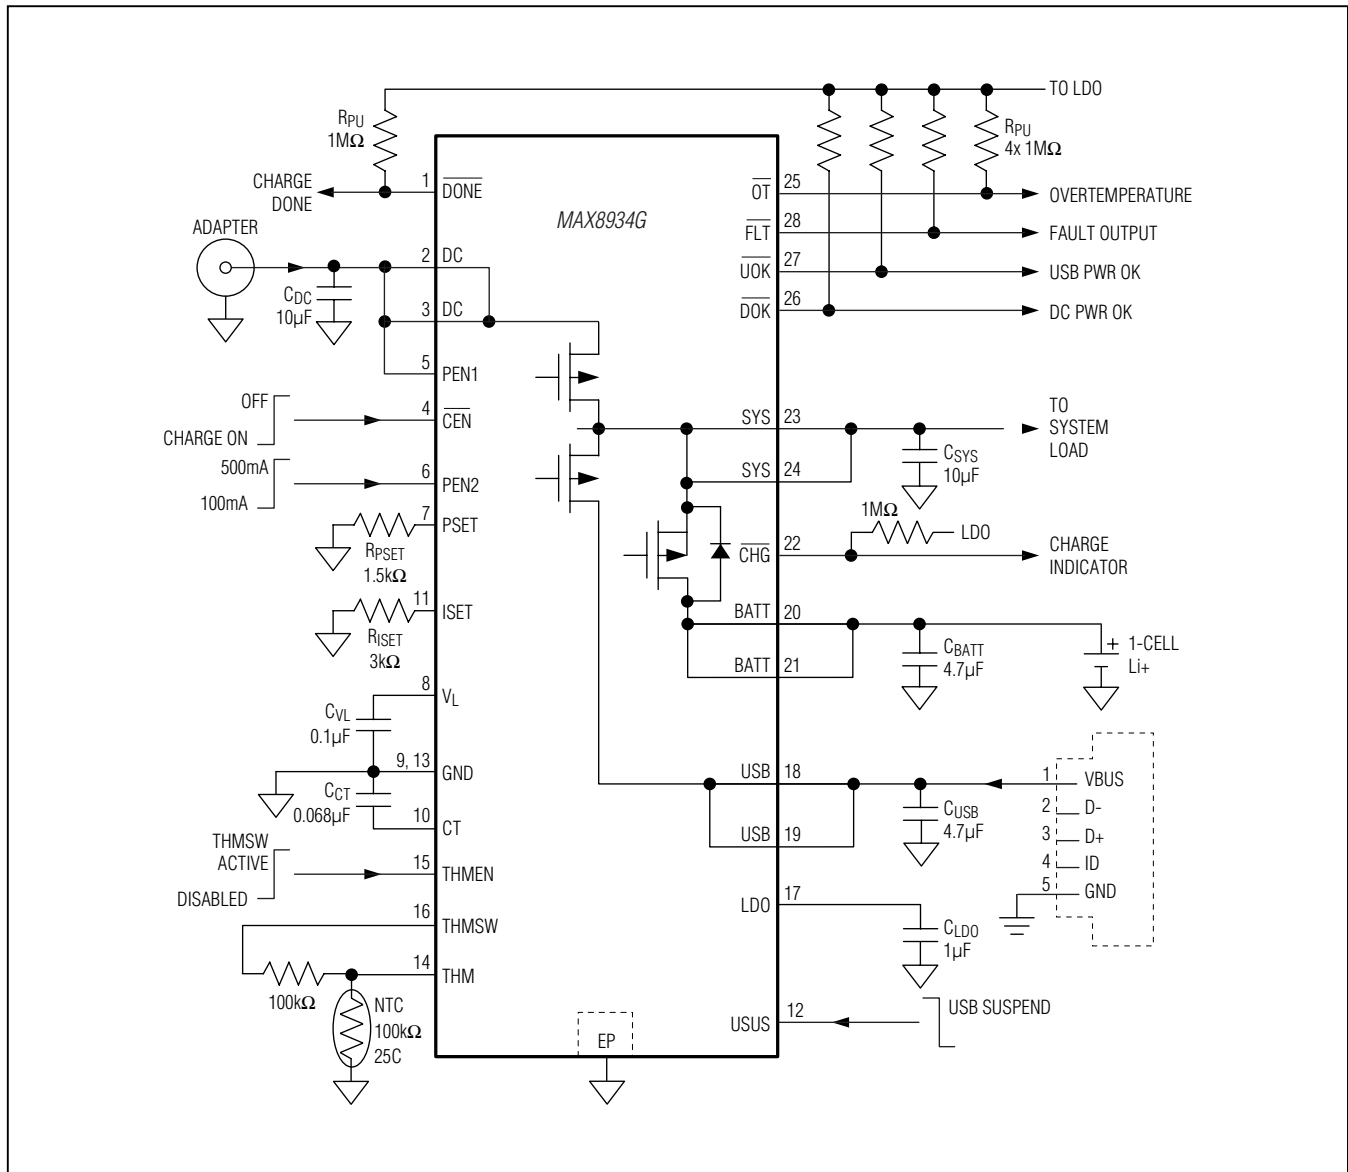
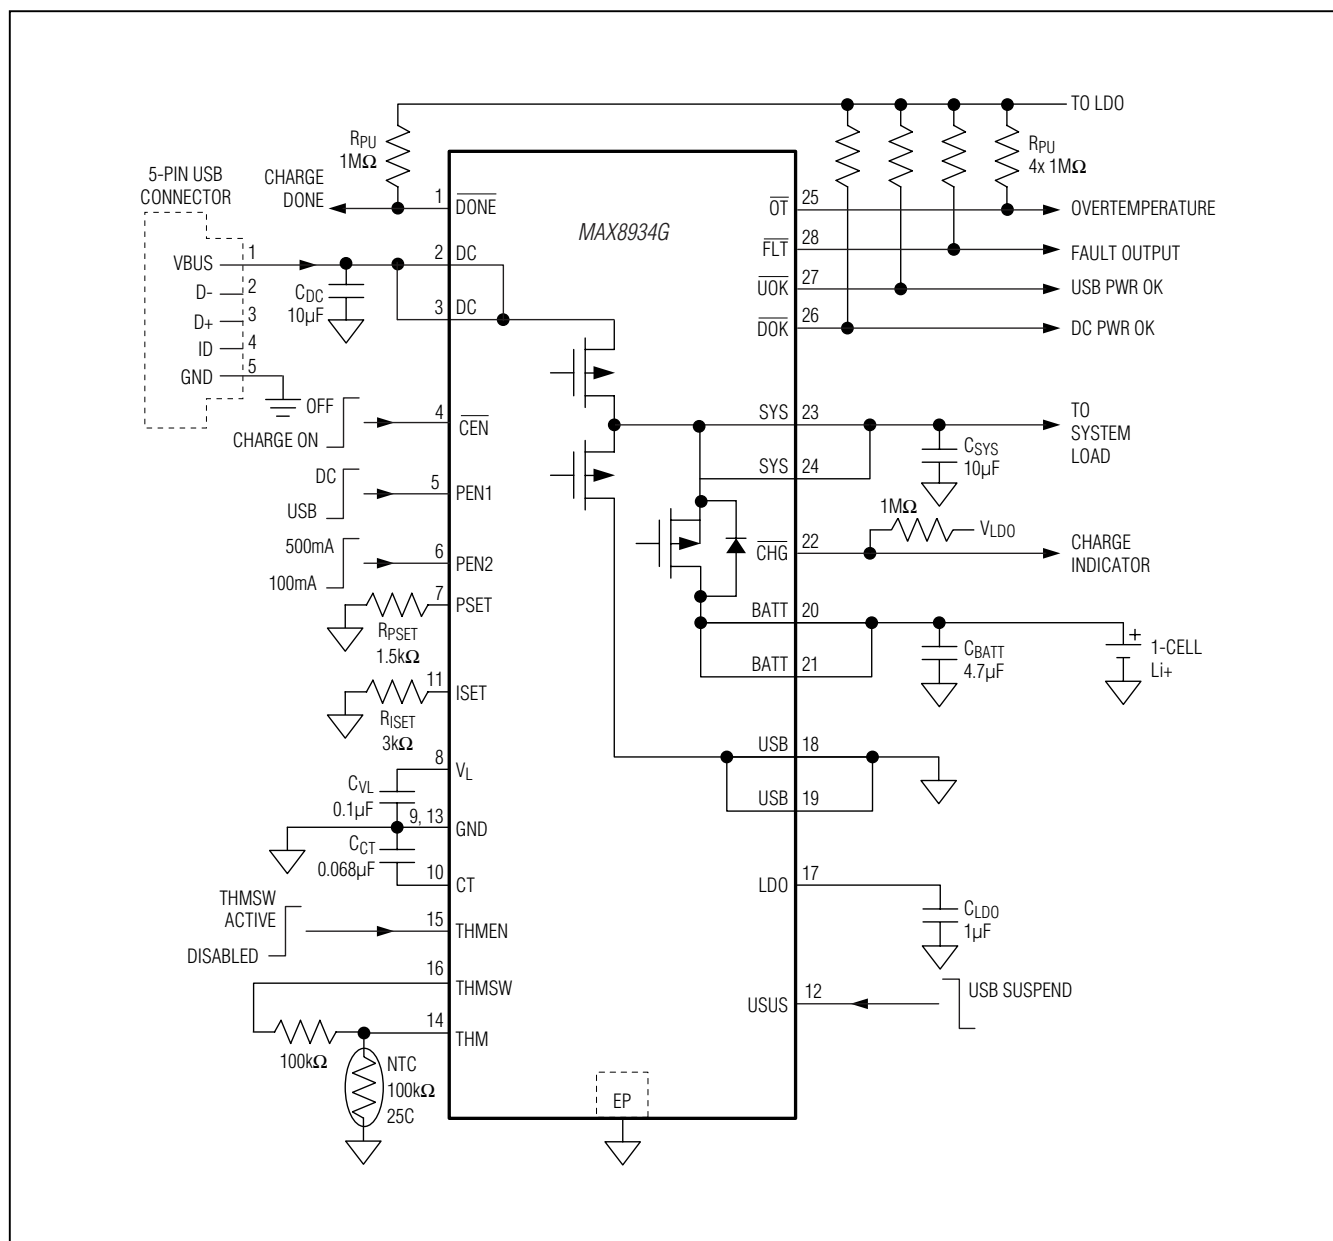

Figure 2. Typical Application Circuit Using Separate DC and USB Connector
Figure 3. Typical Application Circuit Using a 5-Pin USB Connector or Other DC/USB Common Connector
( $T_A = +25^\circ\text{C}$ , circuit of Figure 2,  $V_{DC} = 6\text{V}$ ,  $V_{BATT} = 3.6\text{V}$ , thermistor Beta = 3964, unless otherwise noted. Negative battery current indicates charging.)
**Table 1. External Components List for Figures 2 and 3**
The MAX8934G is a dual-input linear charger with Smart Power Selector that safely charges a single Li+/Li-Poly cell in accordance with JEITA specifications. The MAX8934G integrates power MOSFETs and control circuitry to manage power flow in portable devices. See Figure 1. The charger has two power inputs, DC and USB. These can be separately connected to an AC adapter output and a USB port, or the DC input could be a single power input that connects to either an adapter or USB. Logic inputs, PEN1 and PEN2, select the correct current limits for two-input or single-input operation. Figure 2 is the typical application circuit using separate DC and USB connectors. Figure 3 is the typical application circuit using a 5-pin USB connector or another DC/USB common connector.